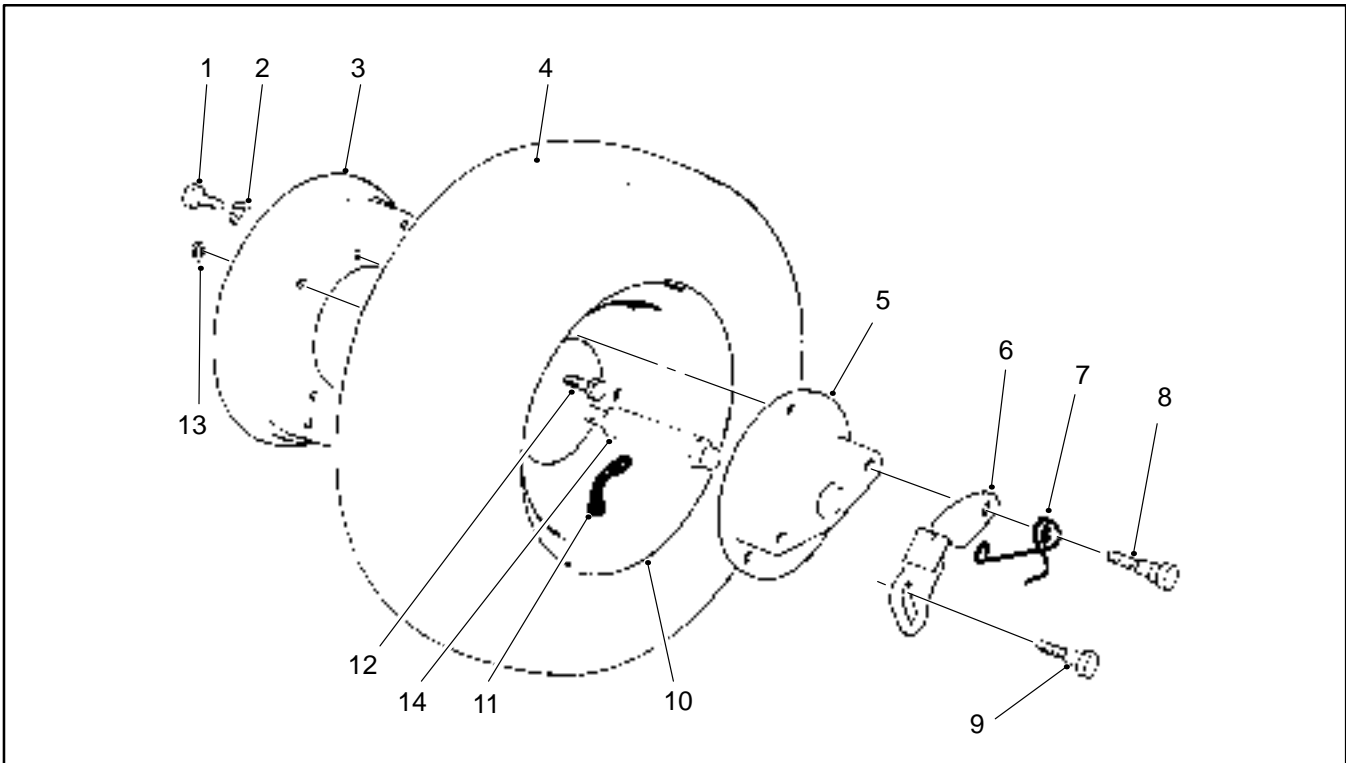
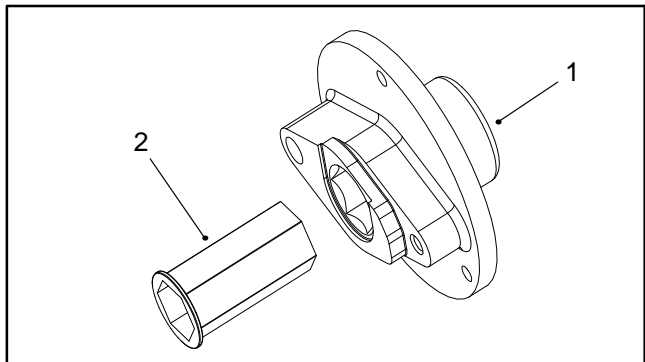

Figure 14
Figure 15
**Disassembly (Fig. 14)**
2. Remove three cap screws (1) and lock washers (2) from the shallow rim (3) and hub (5). Remove hub from deep rim (10).
3. Remove four cap screws (12) and flange nuts (13) from the deep rim (10) and shallow rim (3). Remove shallow rim from the deep rim.
4. Remove bolt (9) from the hub (5). Remove bolt (8), spring (7), and retaining lever (6) from the hub.
5. Later production wheel assemblies include a hub bushing (Fig. 15). Make sure that bushing is in good condition.
**Reassembly (Fig. 14)**
1. Reinstall retaining lever (6), spring (7), and bolt (8) to the hub (5). Reinstall bolt (9) to the hub. Tighten both bolts
2. Reinstall shallow rim (3) into the deep rim (10). Secure shallow rim to the deep rim with the four cap screws (12) and flange nuts (13). Tighten fasteners.
3. Reinstall hub (5) into deep rim (10). Secure hub to deep rim with three cap screws (1) and lock washers (2). Tighten fasteners.